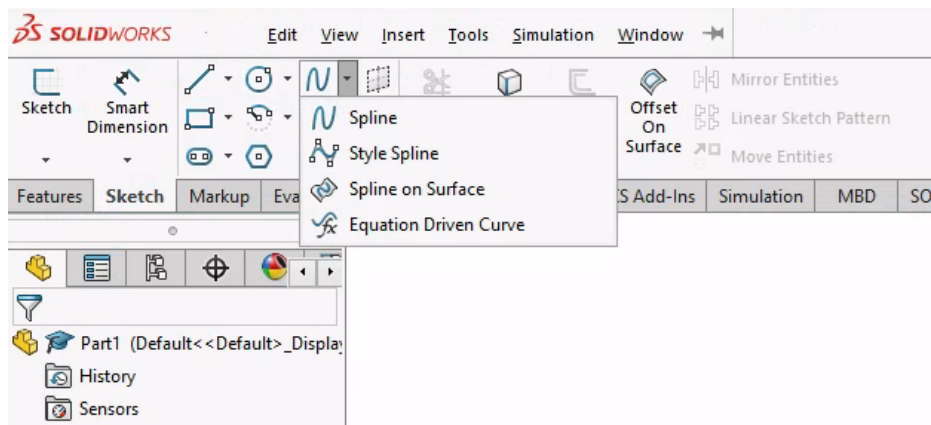

Figure 3: The spline function, in particular splines from equations.
3. To meet project requirements, you will have to use splines: curves defined by equations. Those can be found in the Sketch tab, as shown in Figure 3.